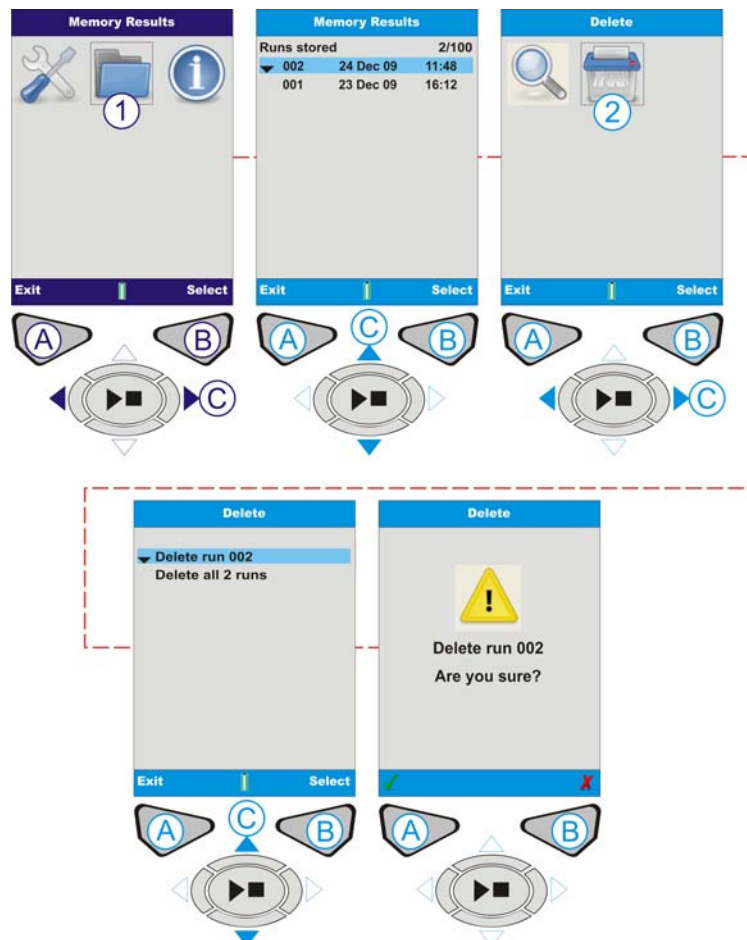

Figure 11 Delete Memory Result
I. DELETE MEMORY RESULTS (Refer to Figure 11)